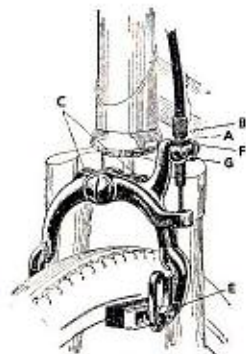

Fig. 1
*The fixing bolt is concealed within the hood. To adjust, it is necessary to release cable from the slot in the hood and move it downwards. This will be made easier if the cable stop "G" (page 15, Fig. 1) is released from brake stirrup. The head of the bolt can now be loosened with a strong screwdriver. Make sure that lockwasher is in position and thoroughly tighten bolt after adjustment.*